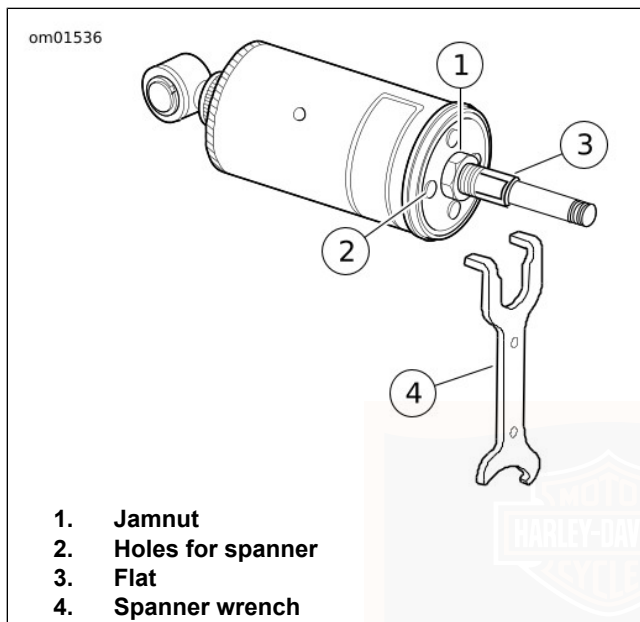

Figure 14. Shock Absorber Adjustment
1. See Figure 14. Hold the shaft with a wrench on the flats of the shock shaft and loosen the jamnut (2).
2. Use the tangs of the SHOCK ADJUSTMENT SPANNER (PART NUMBER: 94448-82B) in the holes in the rear shock canister (1) to turn the canister clockwise until it stops. This is the minimum preload position.